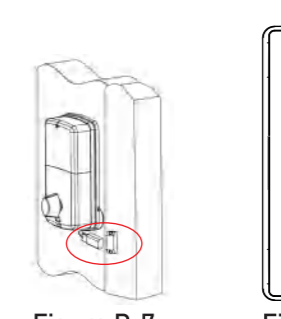
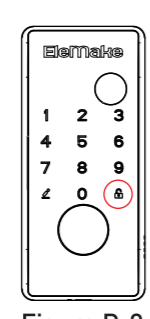

Figure P-7
Figure P-8
(8) Locking the door(Figure P-7, Figure P-8)